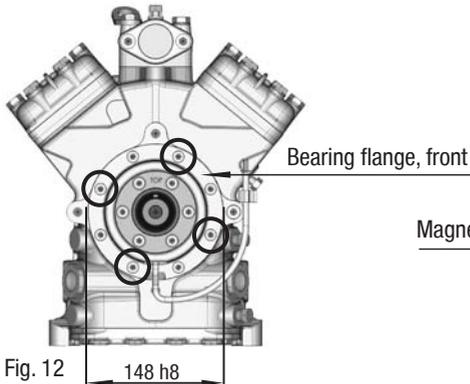

Fig. 12
- To absorb the magnetic field of the electromagnetic clutch, the front bearing flange has a snug fit  $\varnothing 148$  h8 (see Fig. 12).
- To connect the magnetic field, loosen the 4 cheese head screws M8 on the bearing flange (see Fig. 12).